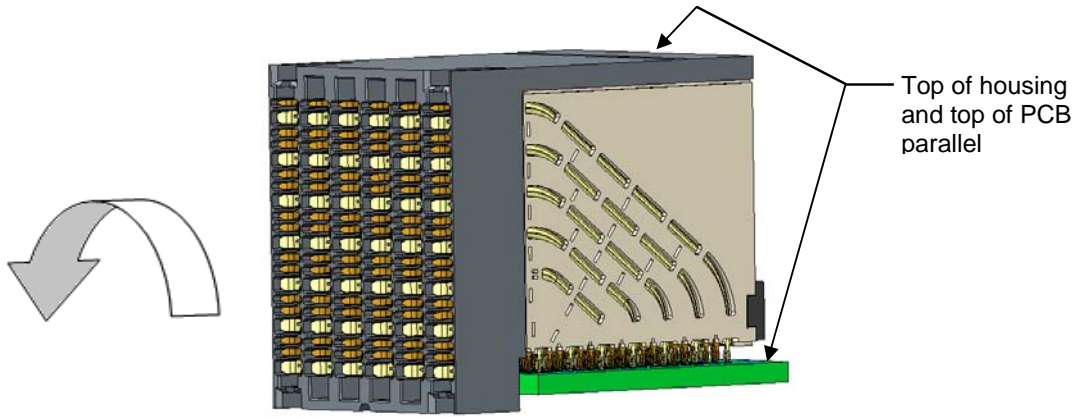

Figure 33: Connector Rotated Parallel to Top of PCB and EONs Aligned
- Once the end column EON tips have been inserted, rotate the connector towards the board to insert the rest of the EON tips into their corresponding vias. The top surface of the connector should be parallel with the top surface of PCB after all of the tips have been properly inserted. Refer to figure 33.